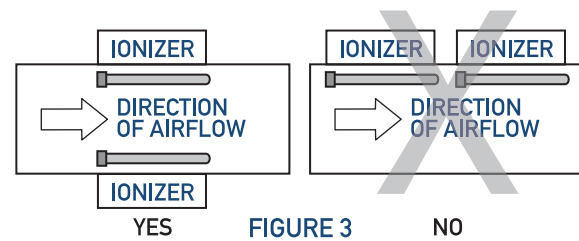

FIGURE 3
- If multiple units are installed on the same duct, the units need to be installed around the perimeter of the duct so that ionized air from one unit does not pass over a second ionizing unit. See figure 3